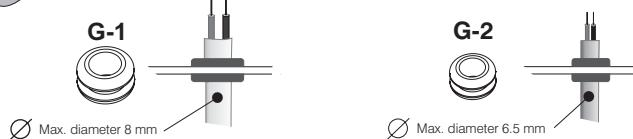

Fig. 4
- Remove the wire-holder base **B** and remove the plastic hole covers with the help of a suitable tool (fig. 4).